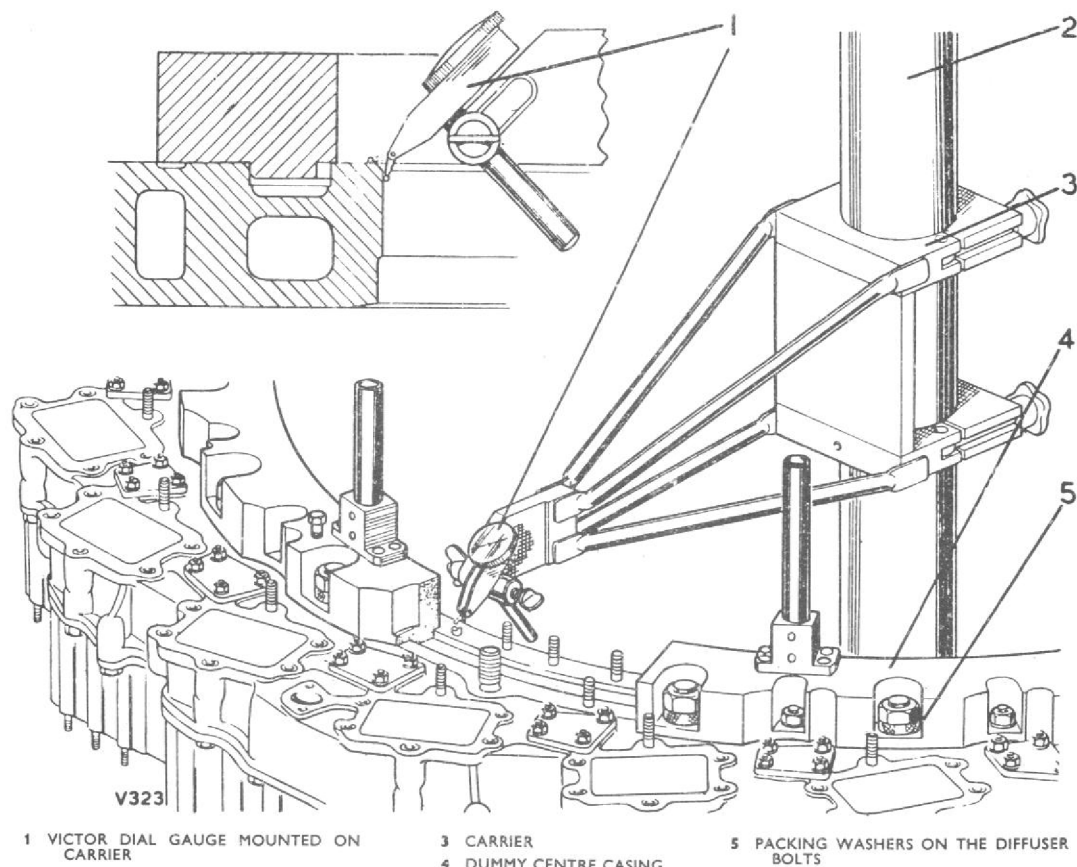

Fig. 5. Checking concentricity of the diffuser rear cover and sealing face
5. With the exception of damaged studs, damaged diffuser bolts, and damaged tip clearance unions, no additional work other than that required for normal assembly is necessary to renew any standard part; the defective parts rejected being discarded and new, serviceable, or repaired parts substituted. A new diffuser bolt must be blended to accord with the requirements detailed in fig. 5 in Chapter 27H, to suit the diffuser vane through which it passes, and after blending must be cadmium plated. Tip clearance unions which are renewed should be fitted with a new tab-washer (Part No. N3775). The effective length of the new union must be checked as follows. Position setting gauge T72502 on a surface table; insert the spindle of the dial test indicator T72779 into the setting gauge; abut the body of the D.T.I. on the gauge and set the D.T.I. to read zero. Insert the spindle of the dial indicator gauge into the tip clearance union. Place a steel rule or similar flexible strip over the inner face of the union to follow the contour of the diffuser casing so that the stylus of
- (1) Secure a Victor dial test indicator to the corner end of the carrier by inserting the D.T.I. attachment bar into the clamp blocks and tightening the wing nuts (fig. 5).
- (2) Locate the stylus of the D.T.I. on the diffuser casing rear cover at the sealing plate flange abutment face, rotate the mandrel and check that the squareness of the flange abutment face in relation to the axis through the main bearings is within the limits (fig. 5).
- (3) Remove the carrier, the mandrel, and the dummy centre casing from the diffuser casing.